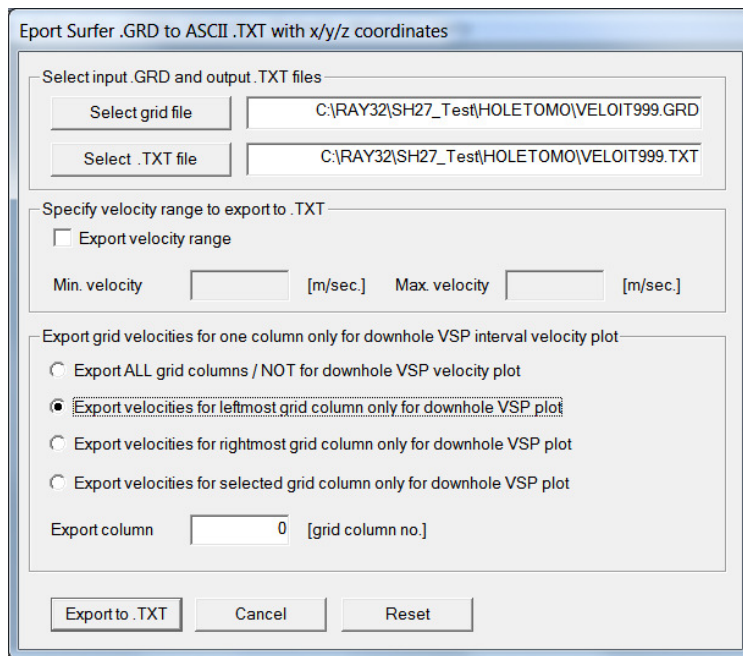

Fig. 22 : **Grid\Export grid file to ASCII.TXT** dialog. Edit as shown and click button **Export to .TXT** .
1. select **Grid\Export grid file to ASCII.TXT** See Fig. 22 .